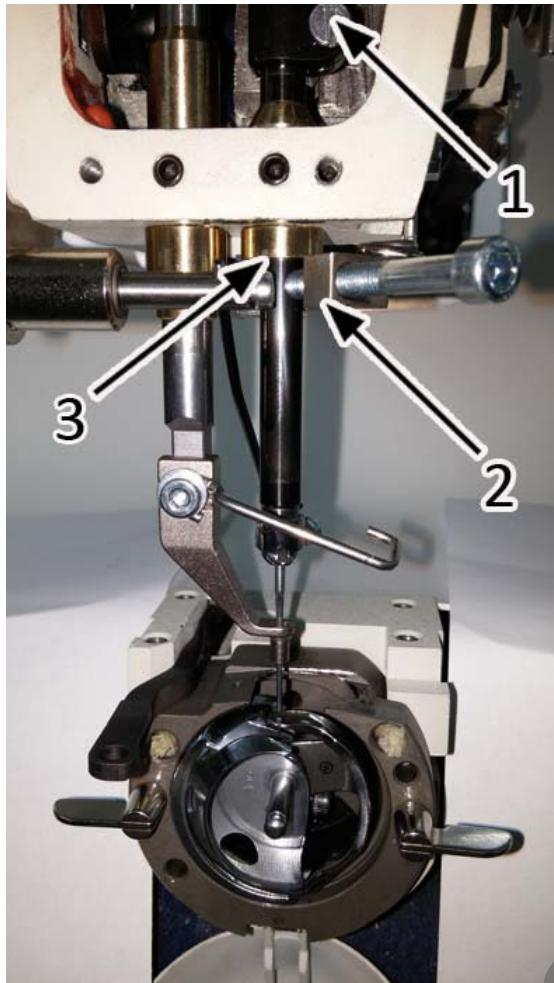
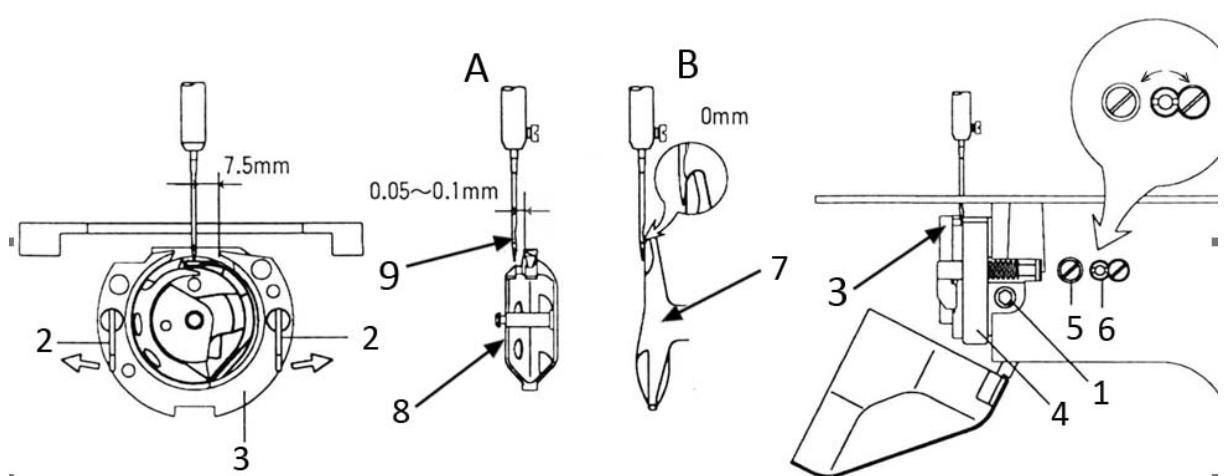

Fig. 18
Fig. 20
The hook in connection with the needle must be set so that the edge is in the position of lower relief of needle when the hook is taking the loop of upper thread. Figure 20, detail A.
Recommended process, Figure 18, 19, 20:
- A. Set the needle into the lower reversal point by turning the hand wheel. Put the stop sleeve (2) on needle bar and insert the scale (4) between stop sleeve and bushing (3). Tighten the screw (5) so that there is no play between the bushing, stop sleeve and scale. The thickness of the scale for shuttle hook is 2.5mm.
- B. Remove the scale (4) and pull the scale (2) onto the bushing (3) by turning the hand wheel.
- C. In this position the ege of the hook must be in the axe of the needle. Loosen the screw (1) (Fig. 18) and turn with the shuttle driver (7) (Fig. 20) to the position so that the hook (8) touches the shuttle driver by turning in clockwise. In this position the edge of the hook must be in the axe of the needle. The screw (7) is loosen so there is neccessary to set this screw in contact with the needle, Figure 20, detail B. It is used as protection of the hook.
- E. Turn safety levers (2), Fig. 20 and remove the ring of the hook (3) from the hub (4).
- F. Loosen the screw (5) and set the edge of the hook in distance of 0.05 - 0.1mm from the hook relief (9) by turning the eccentric. Figure 20, detail A.
- G. After that set the distance from the axe of the needle and the edge of hub of hook relief (4) in value 7,5mm.
- H. Put the ring of the hook (3), lock safety levers (2) to vertical position and check if all screws are tightened carefully.